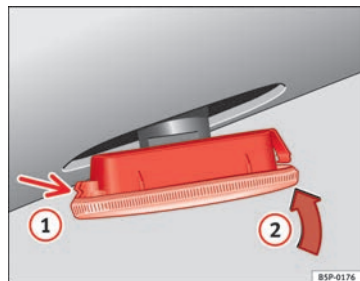

Fig. 190 Side turn signal
- First place the turn signal in the opening in the bodywork, fixing the tabs ⇒ fig. 190, arrow ①.
- Insert the bulb as shown by the arrow ② ⇒ fig. 190. ■